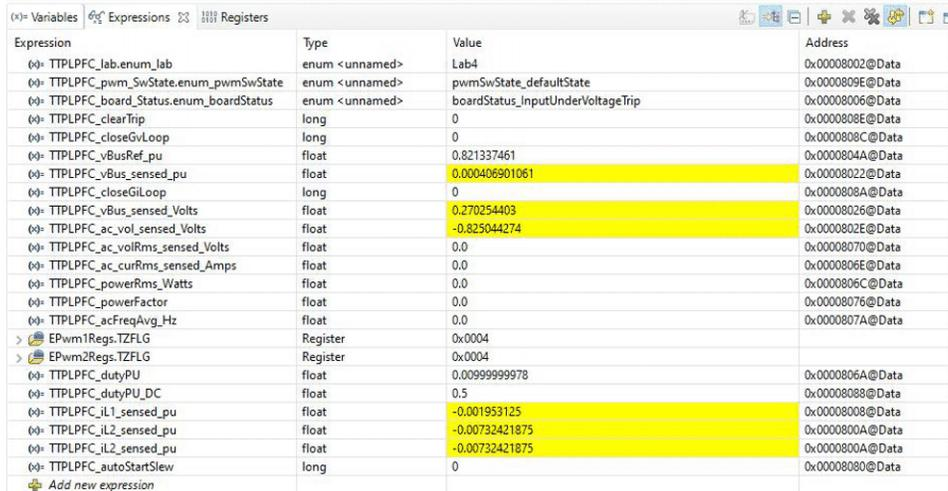

Figure 3-26. Voltage Loop PI Compensation Tuning Using Compensation Designer
1. Compensation designer then launches with the model of the voltage loop plant, as shown in Figure 3-26. The PI compensator can be edited to get the desired gain and phase margin, keeping in mind the bandwidth of the voltage loop has an inverse relationship with the THD achieved. Typically in a PFC application, this bandwidth is kept at approximately 10 Hz.